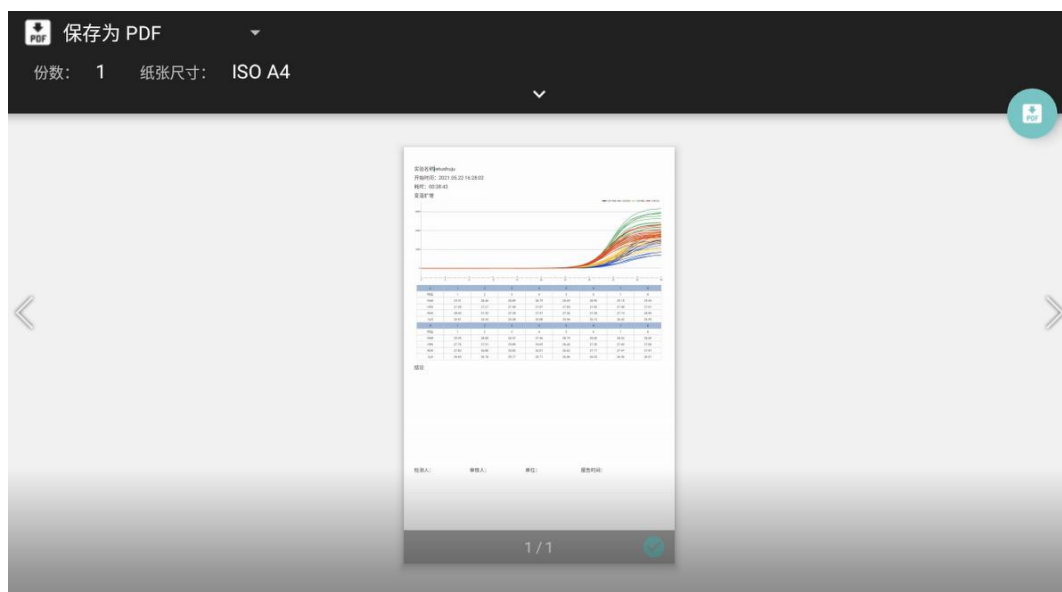

Figure 4.6-4 Save as PDF file page
- 4) Click the "OK" button to enter the Figure 4.6-4 page